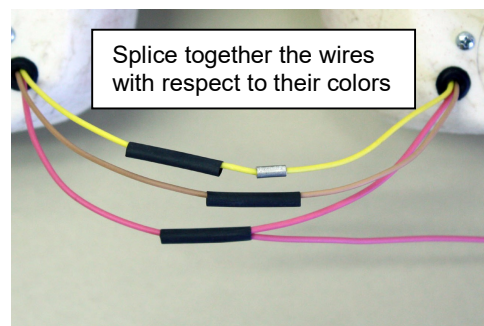

Figure 3
- 4.8.1. For the three housings making up a taillight assembly, bring each of the three matching color wire together for splicing with moderate slack. Cut off any excess wire length and strip off ¼" insulation off each wire. Slide a piece of heat shrink tubing over all wires on one side of the splice. Using the butt splices provided, insert the one color wire into each side and crimp the wires together. Then slide the heat shrink tubing over splice and shrink into place with a heat gun or other suitable heat source. (See Figure 3) Perform this operation for both left and right housings.
- 5.1. For the three housings making up a taillight assembly, bring each of Pink wires together for splicing with moderate slack. Cut off any excess wire length and strip off ¼" insulation off each wire. From the 20 foot Pink wire coil supplied, cut a 6" piece of wire and stripe one end ¼" to include with the splicing of the three other Pink wires from each housing. Slide a piece of heat shrink tubing over all wires on one side of the splice. Using the butt splices provided, insert the Pink wires into each side of the butt splice and crimp the wires together. Then slide the heat shrink tubing over splice and shrink into place with a heat gun or other suitable heat source. (See Figure 3) Perform this operation for both left and right housings.